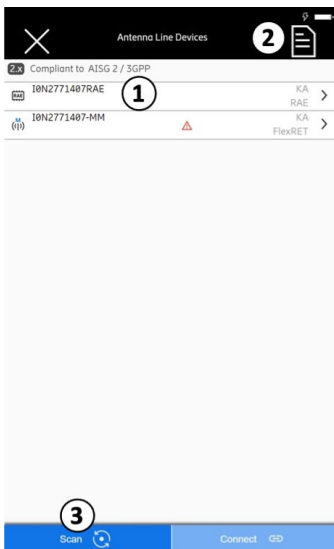

Fig. 77: Devices: Connected to a RAE
- ① Opens the list with the individual subunits
- ② Generates ALD reports, see 9.3
- ③ Selects the AISG protocol scanning options
1. Tap ④ in Fig. 77. The following page is shown: